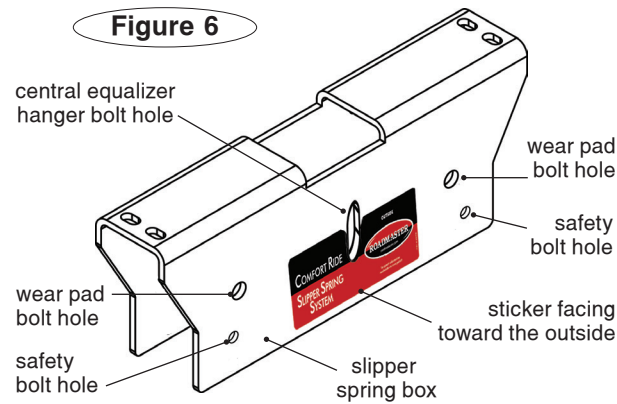

Figure 6
b. With the sticker (Figure 6) facing the outside of the trailer, slide the slipper spring box up and over the equalizer hanger bracket. Align the central slotted hole on the slipper spring box to the hole in the equalizer hanger bracket.
12. Installing the new slipper springs (refer to Figure 6 for the bolt locations in steps 12 and 13):
- b. Insert a 7/16" bolt through the safety bolt hole (refer to Figure 6), a 2 1/2" pipe spacer, and then through the other side of the slipper spring box.